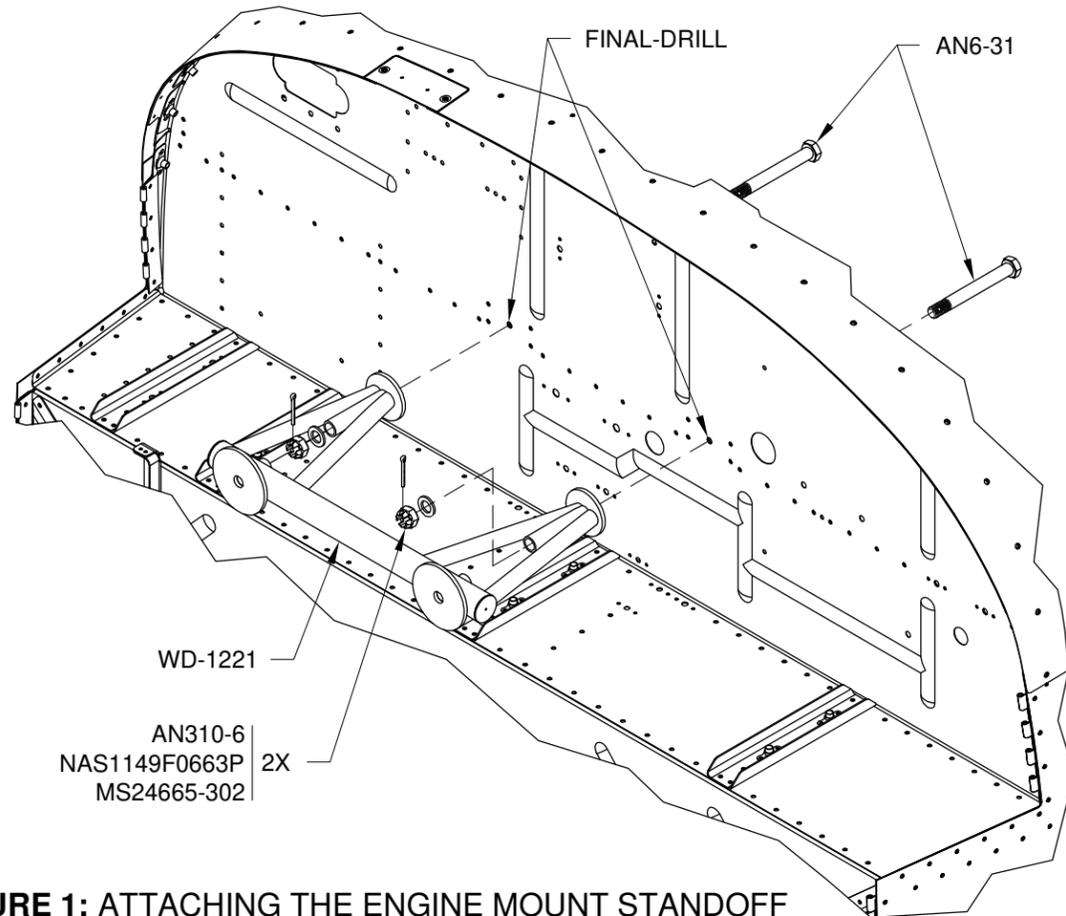

FIGURE 1: ATTACHING THE ENGINE MOUNT STANDOFF
Step 2: Permanently bolt the engine mount standoff to the Firewall Assembly using the hardware called out in Figure 1. If the bolt holes do not align, up to 1/32 in. [.8 mm] may be filed from edges of holes to allow bolts to pass through the Firewall Assembly and into the standoff.